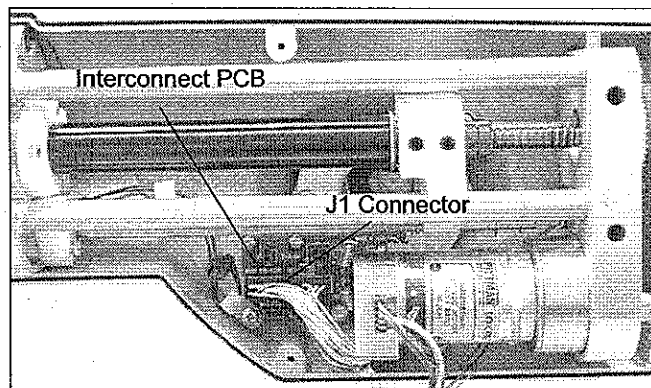

Figure 4-22b: Injector Head Front Enclosure
2. Remove the Injector Head Rear Enclosure (see Section 5.5.1 – Replacing the Injector Head's Rear Enclosure) and disconnect the 24-pin connector from J1 on the Interconnect PCB (see Figure 4-22b).